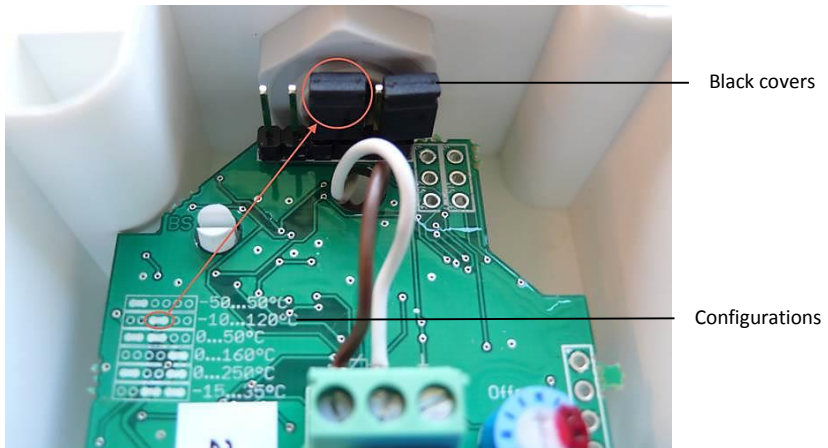

Figure 19: Pin configuration
- Verify that the pins are configured to -10 to 120C. If required, move the black covers to the necessary configuration as shown in Figure 19.